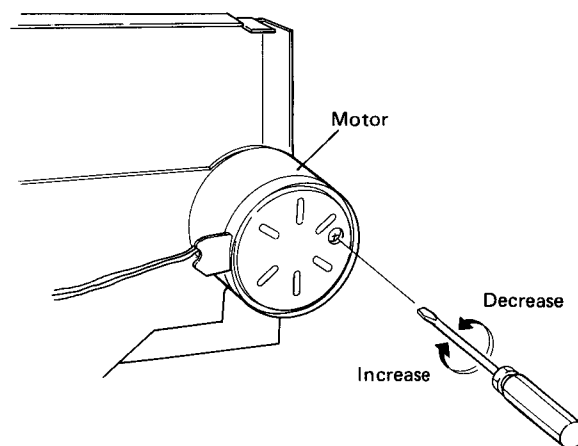

Fig. 10-2 Tape speed adjustment
2. Playback the 3kHz portion of the STD-301 test tape. At the beginning, the frequency should be lie within the 3000Hz~3010Hz range, and may be adjusted by turning the semi-fixed resistor located in the capstan motor adjustment hole as shown in Fig. 10-2.